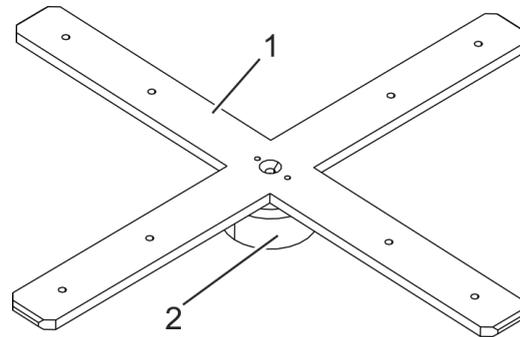

Fig. 86 Lower cross fitting (rigid turnstile)
8. Place the lower cross fitting (Fig. 86/1) on the floor bearing (Fig. 86/2).